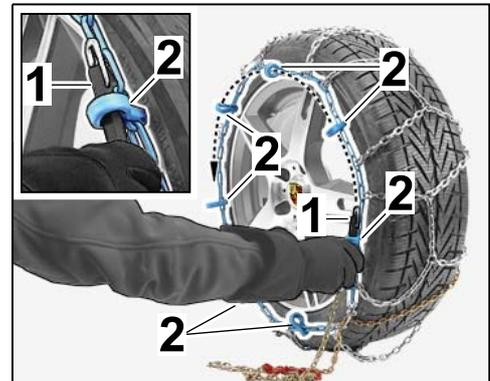

Figure 10
2.3.2 Feed bungee cord with hook through the plastic eyelet (⇒ *Figure 10*).
2.3.3 Feed the rest of the tensioning chain in a circle (⇒ *Figure 10 -arrow-*) over the complete wheel through the remaining plastic eyelets.